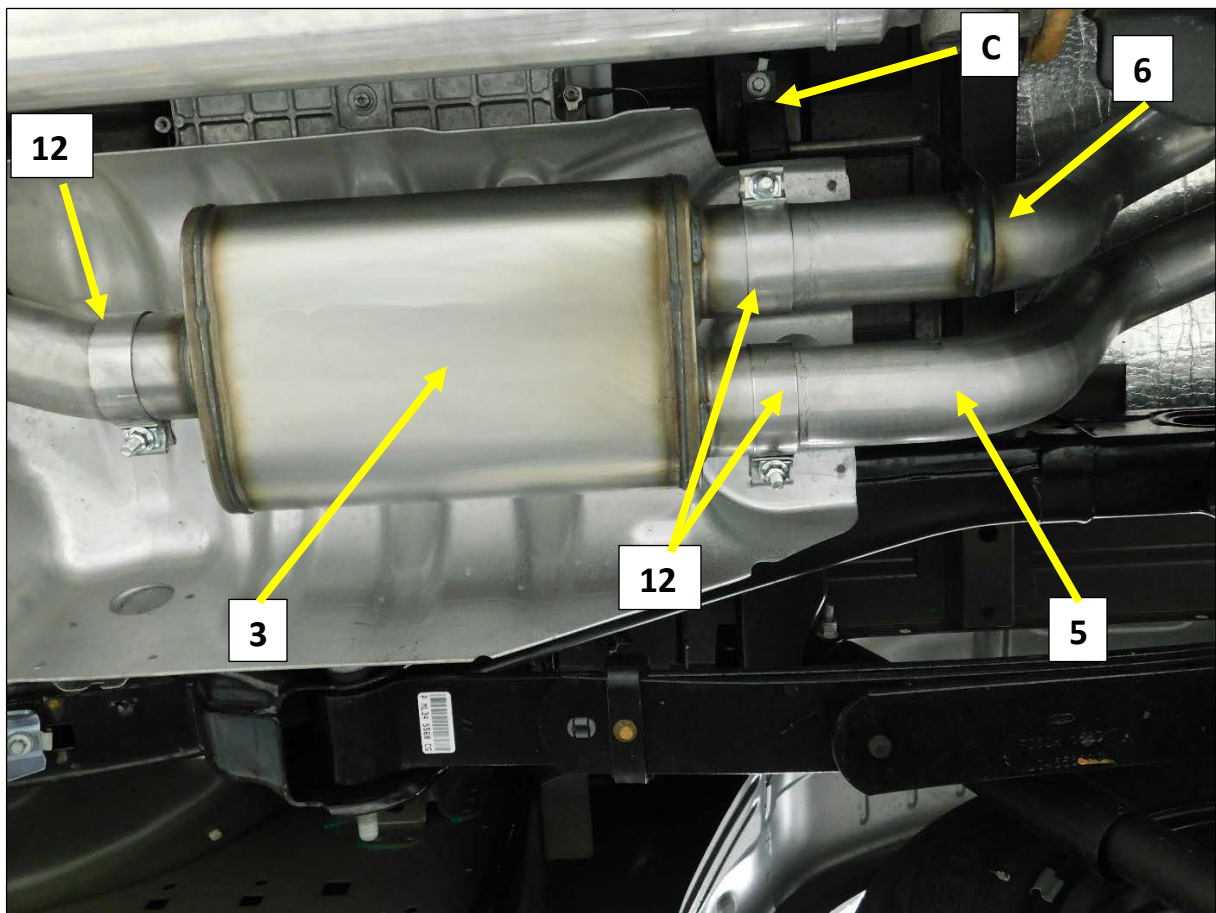

Figure 9
1. Install a 3" band clamp (12) on to each of the three-muffler inlet and outlet pipes with the bolt to the outside and the nut facing down. **Fig. 9**
2. Install the Muffler (3) on to the muffler inlet pipe with the logo facing the ground. **Fig. 9**
3. Tighten the inlet clamp (12) to allow for adjustment.
4. Reinstall the muffler hanger assembly (C). * Be sure the tab is in the slot (not the round hole). **Fig. 9**
5. Install the left Muffler Outlet Pipe (6) into the muffler while guiding the hanger rod into the isolator(C). **Fig. 9**
6. Install the Right Muffler Outlet pipe (5) into the muffler and tighten the clamp to allow for adjustment. **Fig. 9**